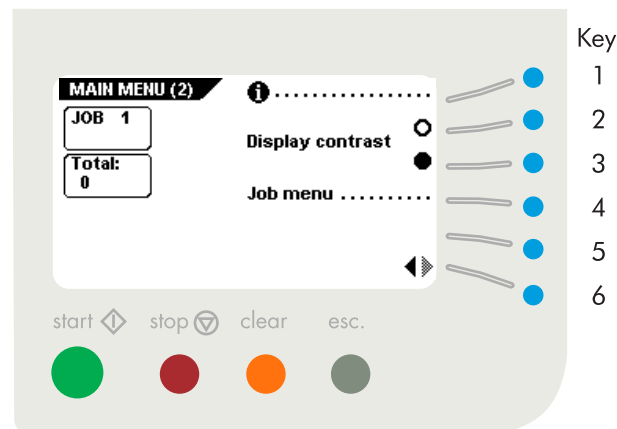

Fig. 9
The main menu consists of two menus, "main menu (1)" and "main menu (2)". After pressing key 6 in the "main menu (1)", the display will show the "main menu (2)", as shown in fig. 9.
- job information (key 1), press key 6 to go back to the "main menu (1)" (the job information function is available in all the menus where the symbol **i** is shown).
- go to the "other job" menu (key 2).
- go to the "test run" menu (key 3).
- go to the "counters" menu (key 4).
- go to the "Fill & Start™" menu (key 5) (only available if the system is equipped with the IntelliDeck™)
- go to the "main menu (2)" (key 6).
The "main menu (2)", as shown in fig. 9 shows 5 different functions:
- job information (key 1).
- display contrast lighter (key 2).
- display contrast darker (key 3).
- go to the "job menu" (key 4) (only for authorized personnel).
- back to the "main menu (1)" (key 6).